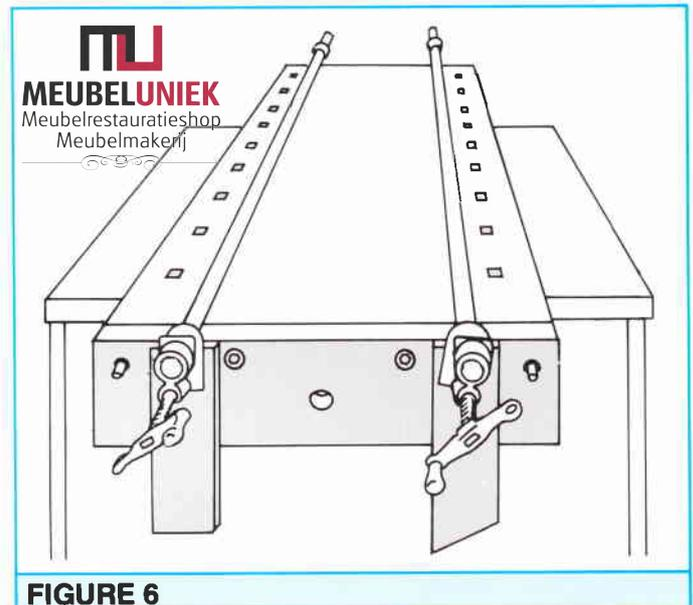

FIGURE 6
Coat the meeting faces of the vice head components (F,G) with glue and clamp together until set, holes in line. Glue and dowel the end rail (D) and tail vice face (E) to the bench top, using the clamp bolts. If available, it is a good idea to use pipe clamps as well. Figure 6.